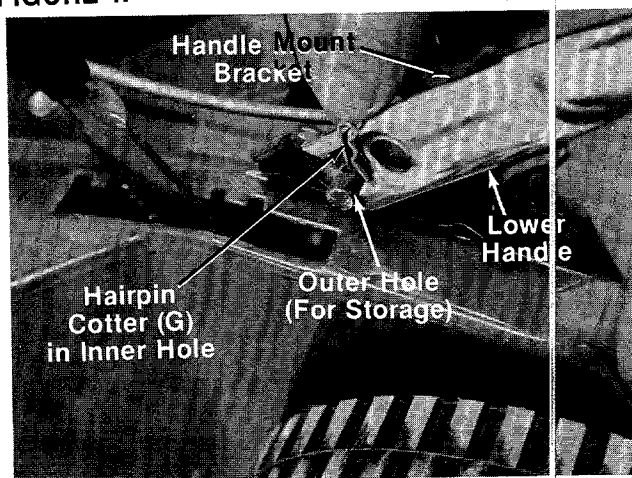

FIGURE 2.
- B (2) Lock Washers 5/16" I.D.
- C (2) Hex Nuts 5/16-18 Thread
- D (2) Phillips Head Screws
- E (1) Plastic Cap
- F (2) Cable Ties
- G (2) Hairpin Cotters
- H (2) Front Hub Caps (Optional)
- ← 4. Place lower handle in position over weld pins in handle mount brackets on deck. Make certain the instruction label on the lower handle can be read from the operating position. Secure by placing two hairpin cotters (G) in inner hole on weld pins. The inner hole is for operation. The outer hole is for storage. See figure 2.